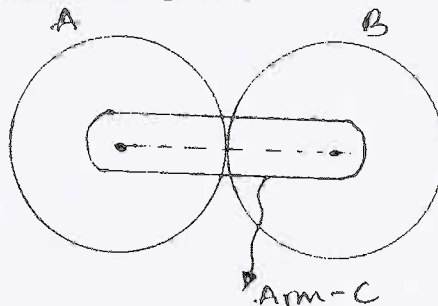

Fig.Q8(b)
- b. In an epicyclic gear train, an arm carries two gears A and B having 36 and 45 teeth respectively. If the arm of the gear train rotates at 150 rpm in the anticlockwise direction about the centre of the gear A which is fixed, determine the speed of the gear B. If the gear A instead of using fixed, makes 300 rpm in the clockwise direction, what will be the speed of gear B. Arrangement is shown in Fig.Q8(b).